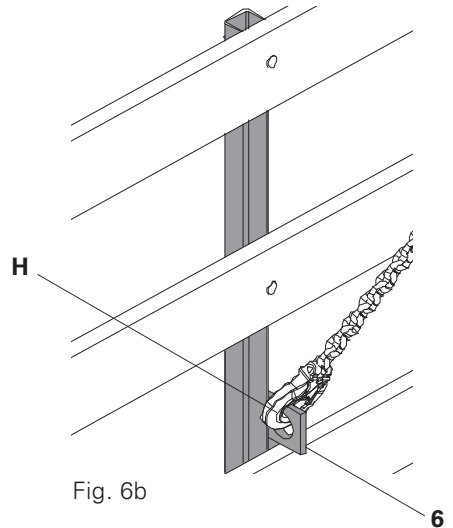

Fig. 6b
Only one sling of the crane lifting gear may be directly attached to each Crane Eye (6) of the Guardrail Holder. (Fig. 6b)